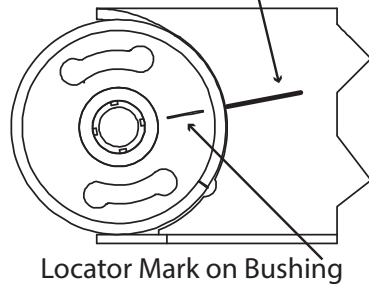

Figure 2.
1. Using the locator mark on the old bushing as a reference, draw a line on the trailing arm beam (Figure 2). The line on the beam will be used to orient the new bushing during installation.
3. The cone is tapered inside to a smaller opening on one end. Insert the new bushing into the larger end of the cone with the locator mark of the new bushing on the outside (Figure 2).
- 4.2 Insert the threaded rod/end cap assembly through the beam eye. Place the tapered end of the cone onto the threaded rod and center the cone on the beam eye. Line up locator mark on new bushing with line drawn on beam during bushing removal (Figure 2).